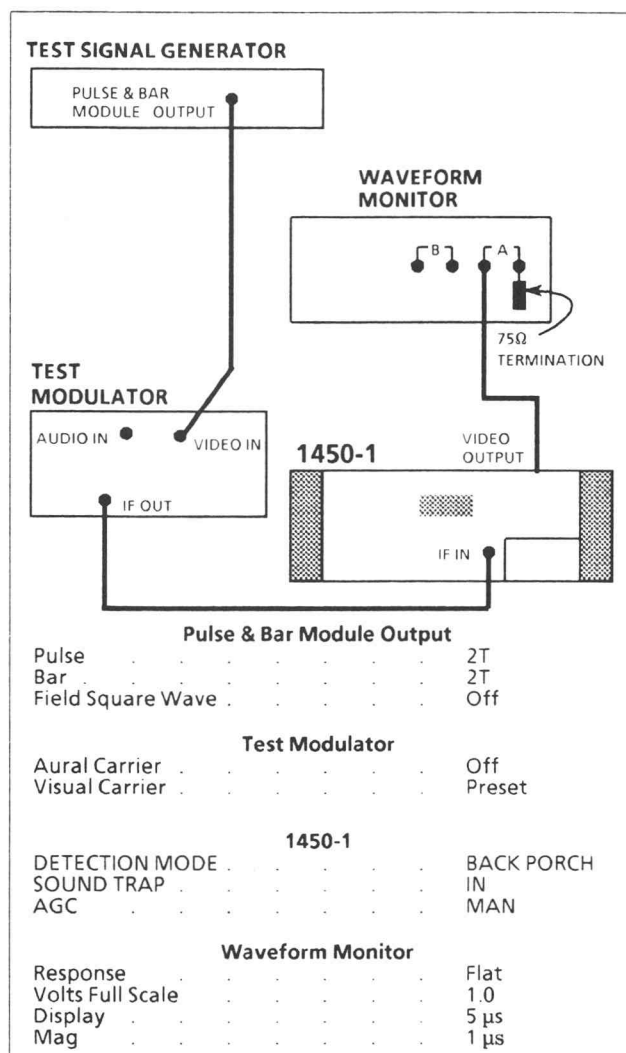
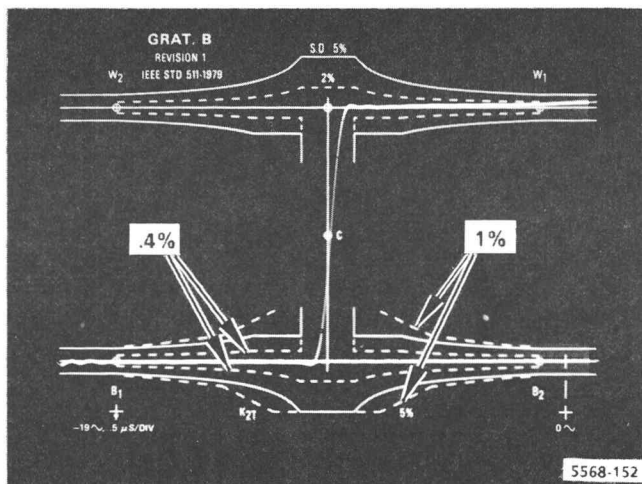
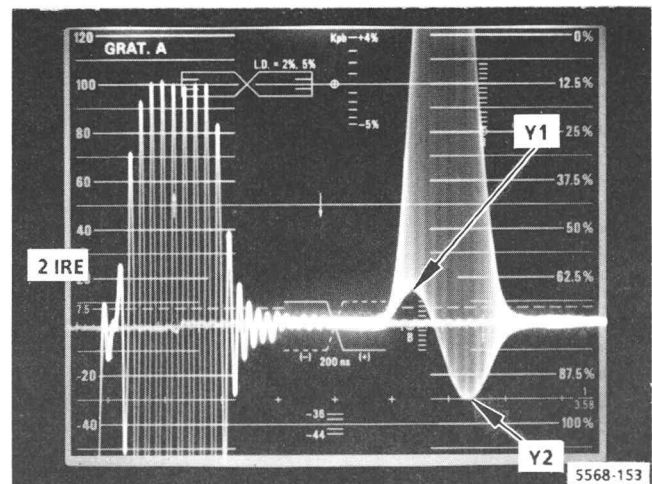

Fig. 4-12. Setup for checking 2T bar overshoot.
Fig. 4-13. Typical graticule 'B' display.
Fig. 4-14. Typical display when checking chrominance-to-luminance delay.
- a. Connect and set the test equipment as shown in Fig. 4-12.
- a. Connect and set the test equipment as shown in Fig. 4-12 with the following exceptions:
- (1) set the linearity module output field square wave to on.
- (2) set the waveform monitor display to 2 field.
- a. Connect and set the test equipment as shown in Fig. 4-12 with the following exception:
- (1) set the waveform monitor mag to  $.2 \mu\text{s}/\text{div}$ .
- c. Set the waveform monitor volts full scale to 0.2. This calibrates the inner dashed graticule lines to 0.4% K and the outer dashed graticule lines to 1% K. See Fig. 4-13.
- c. Set the waveform monitor volts full scale to 0.2, and position the blanking level of the signal on the base line. The minor divisions are now calibrated for 0.4 IRE and the major divisions are calibrated to 2 IRE. See Fig. 4-14.
- d. Calculate the chrominance-to-luminance delay by measuring the baseline errors on the 12.5T modulated pulse. The sum of the left peak (Y1) and the right peak (Y2) will equal 1 IRE p-p for every 10 ns delay on the 12.5T mod pulse. See Fig. 4-14.